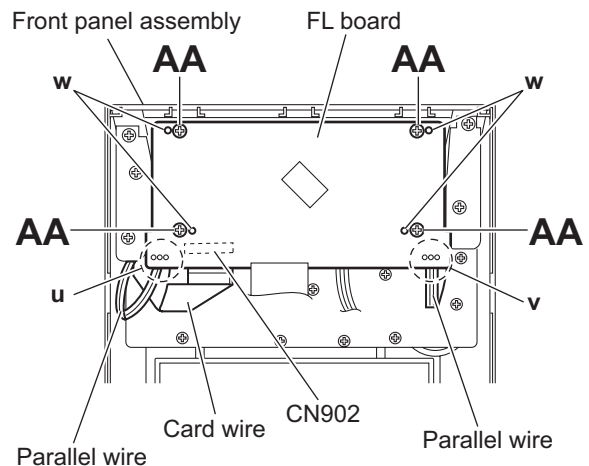

Fig.26
3.1.12 Removing the FL board (See Fig.26)
(See Figs.26 to 29)
- (3) From the inside of the front panel assembly, disconnect the card wire from the connector CN902 on the FL board. (See Fig.26.)
- (4) Remove the four screws **AA**, three screws **AB** and two screws **AC** attaching the each board. (See Figs.26 and 27.)
- (5) Take out the FL board with the switch and standby LED boards.